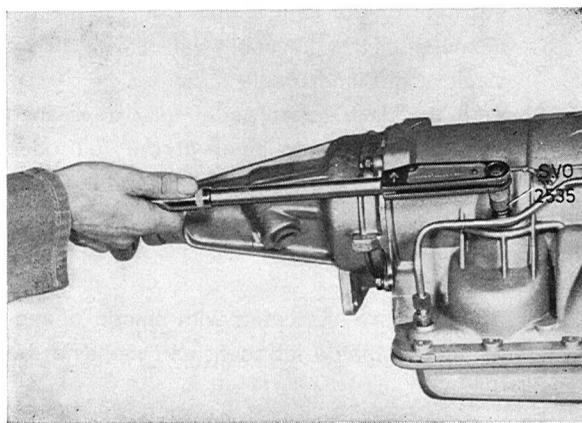

Fig. 4-82. Rear brake band adjustment
2. Use the special socket 2535 and connect the torque wrench to the adjusting screw, see Fig. 4-82. Tighten the screw to 14 Nm (= 1.4 kgm = 10 lb.ft.). Back off the adjusting screw one turn.